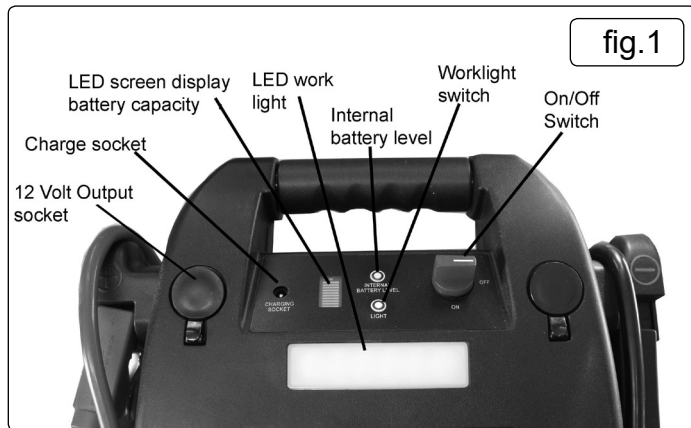

fig.1
4.2. LED MULTI-FUNCTION DISPLAY FIG1/FIG3.